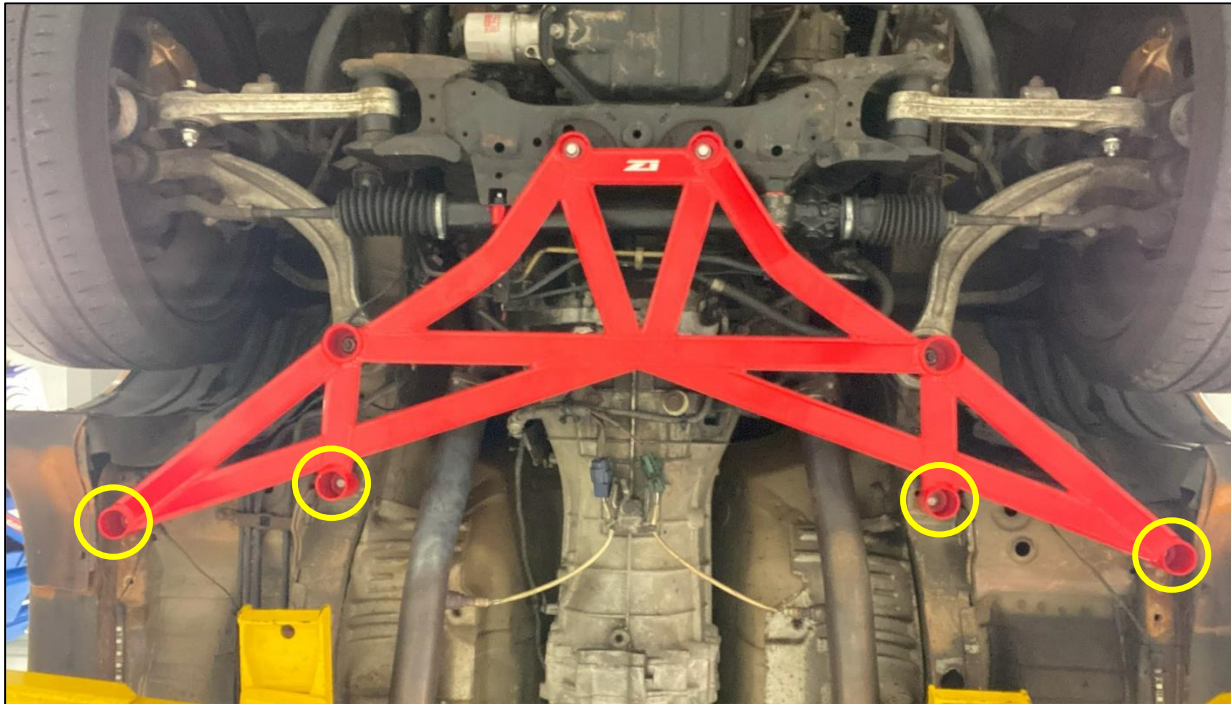

Figure 6
5. Locate the new Z1 Front Subframe Brace and (4) four M10 x 1.25 bolts. Position the new Brace on the vehicle and secure with the (4) four bolts in the locations circled below. Torque the bolts to **47 ft-lbs**. *Figure 6*.